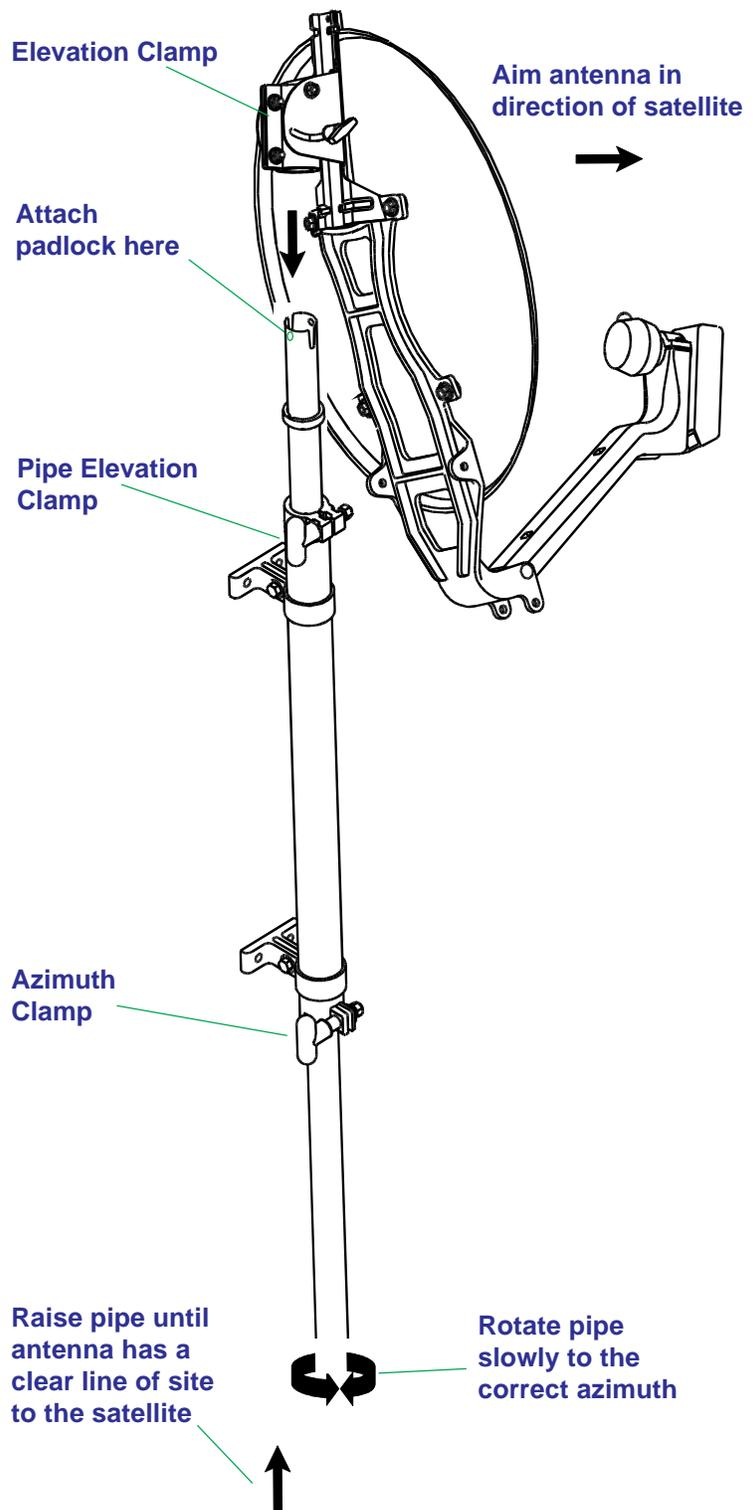

FIGURE 8
STEP 1. Set antenna onto pipe. See Figure 8. Make sure elevation clamp fits into keyway on pipe. **The antenna can be secured in place using a small padlock to prevent theft.**
STEP 10. Raise the antenna so that it has clear view of the satellite, tighten the pipe elevation clamp. See Figure 8. This keeps pipe from sliding down.